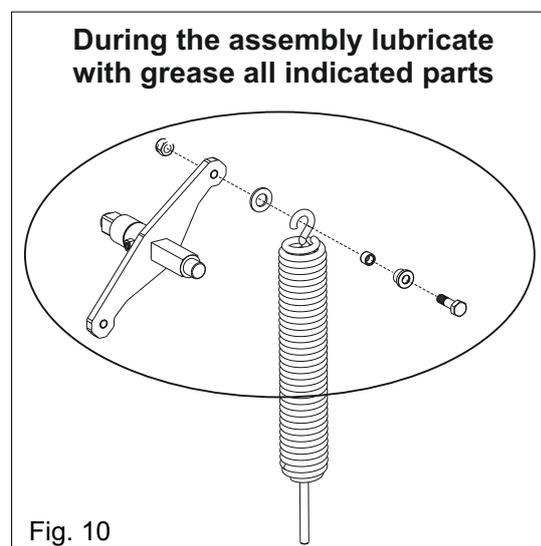

Fig. 10
**Once the piston has been rotated, tighten it with the fixing screws and lubricate everything with grease (Fig. 10) (use DIN 51502 KP 2 N-20 - K 2 K-20 grease)**